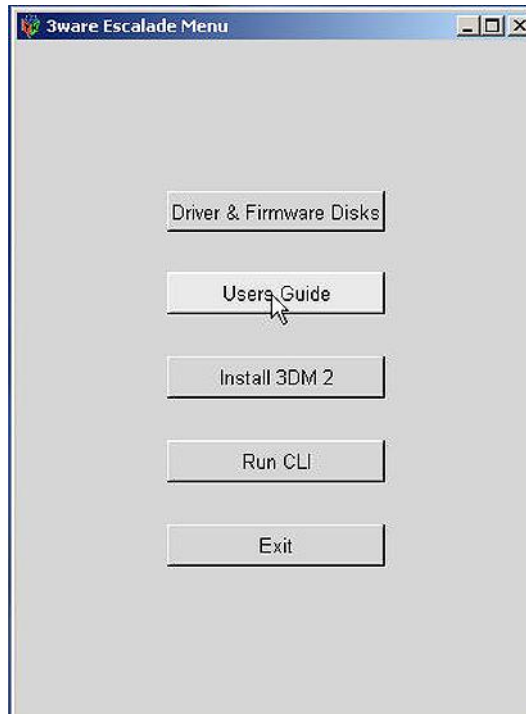

Figure 3-9
- 2) Insert the 3ware CD. The auto-play function will bring up the **3ware Escalade Menu** as shown in Figure 3-9. Initially you should ignore this menu; don't dismiss it, but instead use the operating system's **Device Manager** utility to look for the 3ware driver on the CD and install it.